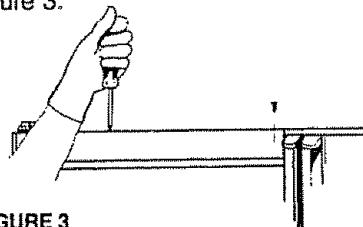

FIGURE 3
2. REPLACE TWO SCREWS. Temporarily replace two screws to hold the second trim strip underneath. DO NOT REMOVE THE SECOND TRIM STRIP FROM THE DOOR. See Figure 3.